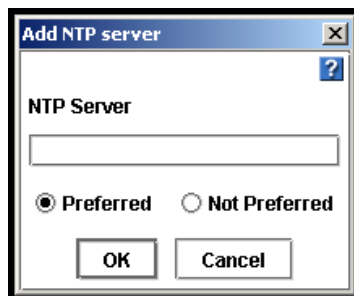

Figure 93. Adding an NTP Server
1. Select On in the NTP Mode area. The Add NTP Server dialog opens, shown in Figure 93.